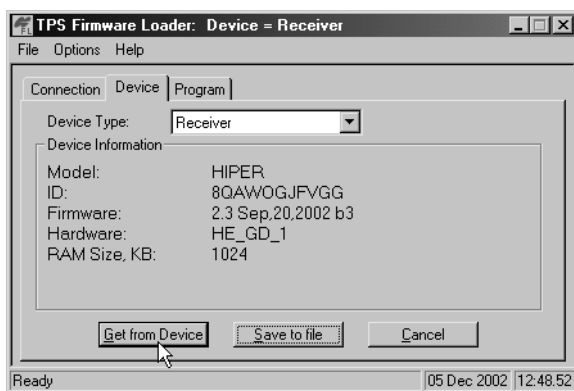

Figure 4-22. Get Device Type
1. In FLoader, select the **Device** tab and set the Device Type as Receiver. Then click **Get from Device** for device information (Figure 4-22).